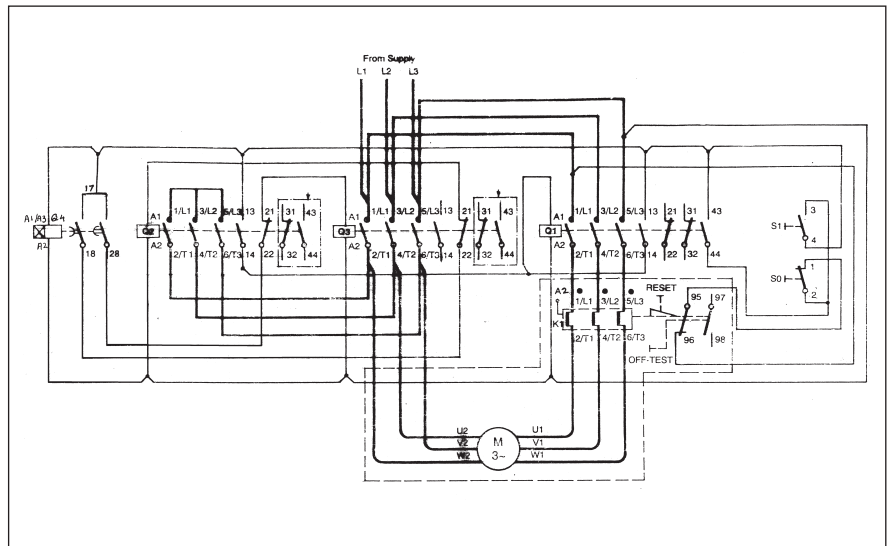

Figure 7: Wiring Diagram
- Check that line and motor connections are done as per wiring diagram (Figure 7) which is also pasted inside the door.